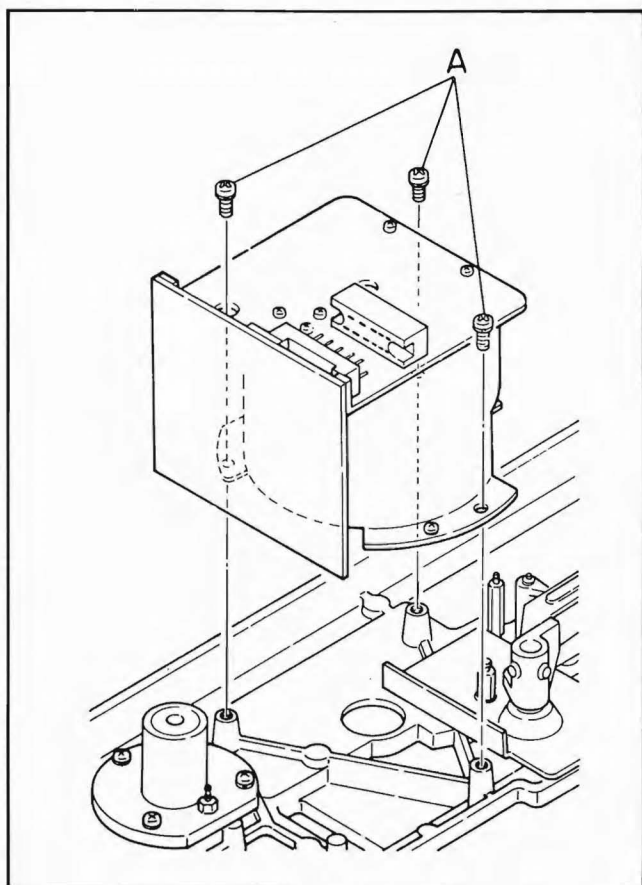

Figure 5-25. Capstan Motor Removal
3. Refer to Figure 5-25 and unscrew the three A screws that hold the capstan motor.